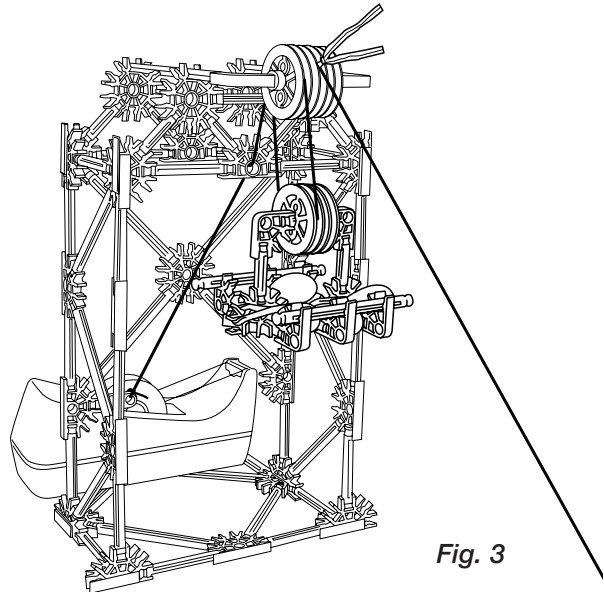

Fig. 3
3. Repeat Step 2 above, but this time have your partner tie a fastener, or twist tie, to the point where the string leaves the pulley. (See Fig. 3)